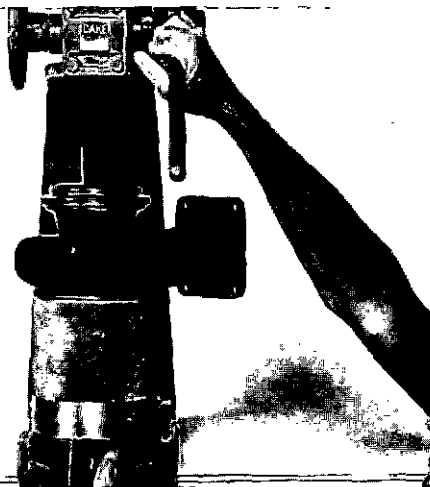

Fig. 4-5, (T465057). Press the rotor assembly from the turbine housing
6. Put the assembly in a press and press the rotor assembly and bearing housing from the turbine housing, Fig. 4-5. Place shop towels or rags at the bottom of the sleeve to cushion the rotor